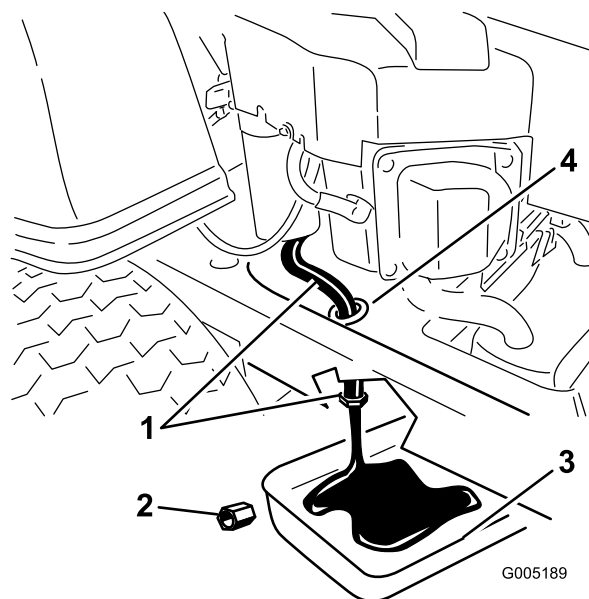

Figure 25
5. Locate the oil drain hose on the left side of the engine. The drain plug is attached to a drain hose routed through a drain hole in the machine frame (Figure 25). Clean the area around the oil drain plug cap and the oil drain hose.
6. Place a pan underneath machine directly below the oil drain hose as shown in Figure 25.
7. Using two wrenches (one to hold the oil drain hose and one to loosen the plug), remove the oil drain plug (Figure 25).
13. When oil has drained completely, install the oil drain plug. Tighten the plug to 14 N·m (125 in-lb) torque. Wipe up any excess oil (Figure 25).